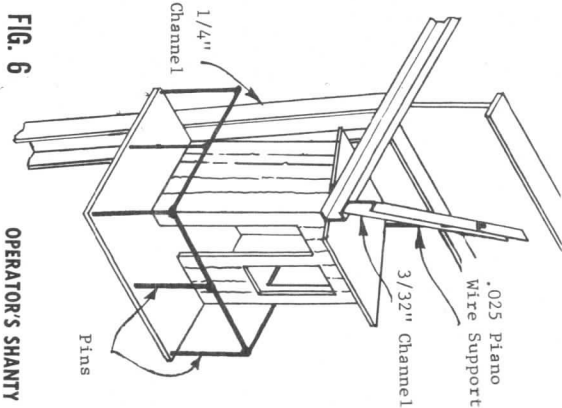

FIG. 6
(5) OPERATOR'S SHANTY - Gather the parts that form the operator's shanty. These pieces have random scribing on one side and windows, doors, and roof lines already marked. Carefully cut out the doorway, both windows, and the roof slopes on each side piece. Using the 1/16" x 1 5/16" x 1 1/16" precut shanty floor platform as a base, assemble and glue the shanty together on the one corner of the platform. This will also keep it square. The shanty sides overlap the front and back pieces. Now glue the 1/32" x 5/16" x 1 1/8" scribed door in position, leaving it slightly open. Then fasten the roof in place. See Fig. 6.